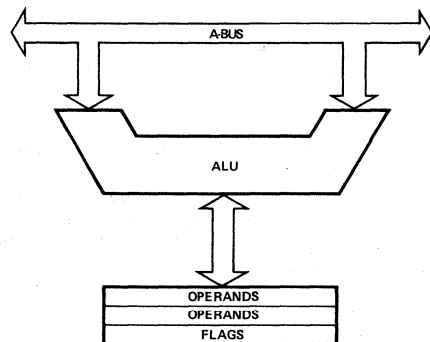

Figure 2-9. Arithmetic-Logic Unit
2.2.5 Arithmetic-Logic Unit (ALU) (Figure 2-9)